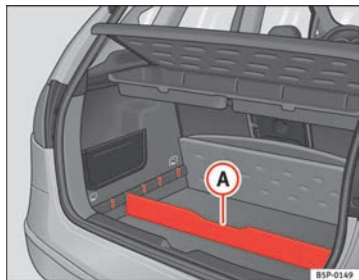

Fig. 106 Luggage compartment divider
- Fit the separator (A) ⇒ Fig. 106, into the side grooves depending on the size of the objects to be transported. The on-board tool kit and the spare wheel are located underneath the luggage compartment.